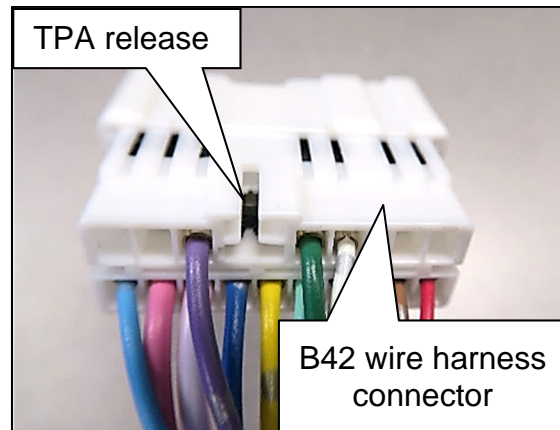

Figure 20
- The TPA release is located on the wire harness side of the B42 wire harness connector (Figure 20).